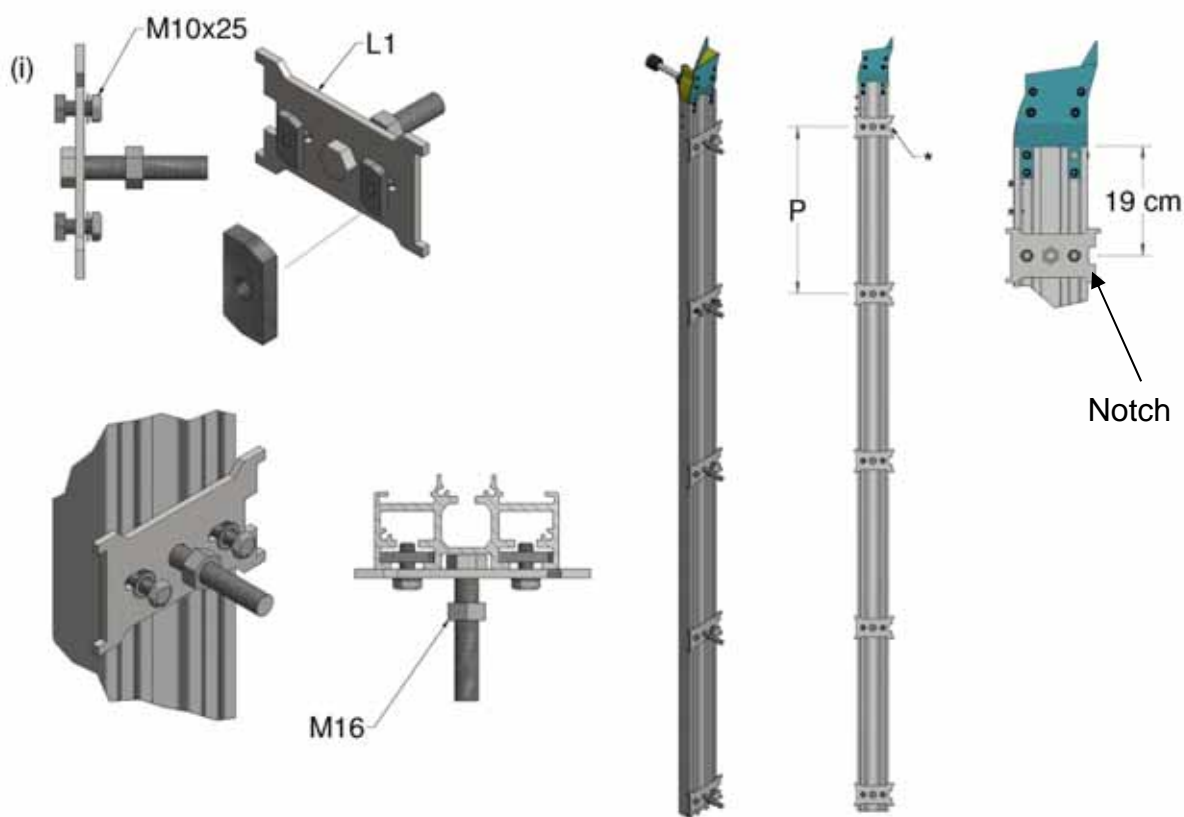

Figure 14, Track Plate Assembly
13. Assemble all the track plates (L1) with the M10x25 bolts, washers and channel nuts as in Figure 14(i). Position the top track plate onto the outside of the track 19cm from the top of the track. Insert the channel nuts into the tracking and rotate, tighten the bolts to secure the plate (the notch in the plate goes on the building side of the track).